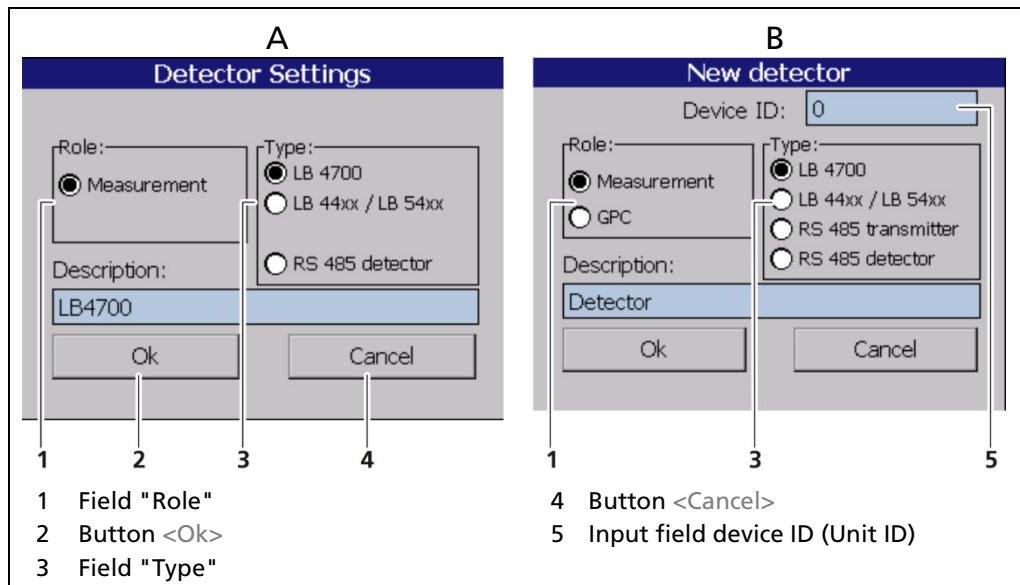

Fig. 55 Detector Settings
3. Set the appropriate function for each detector (Fig. 55).